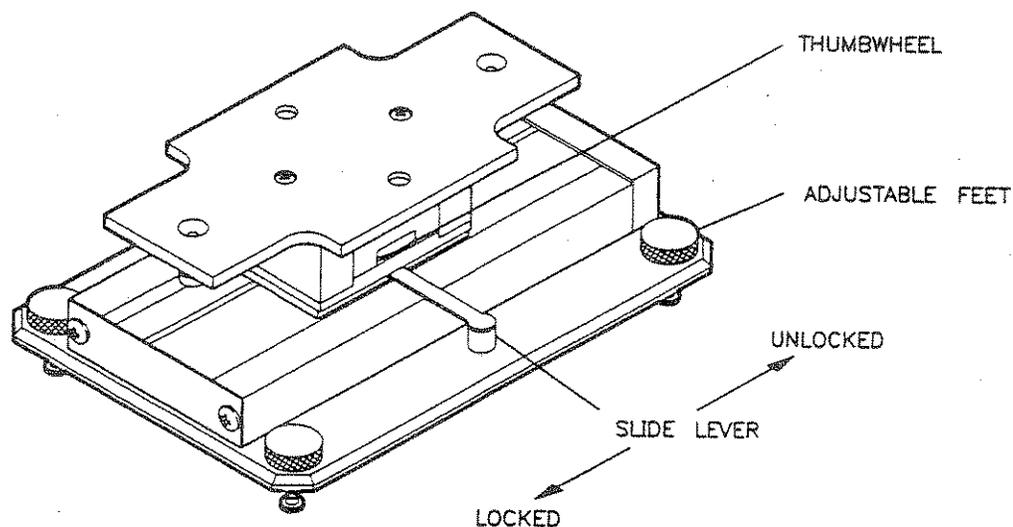

Figure 5-3. Test Set Module Stand
**Adjustment Feet.** The adjustment feet at each corner of the stand allow limited vertical adjustment of the test set module (Figure 5-3). The range of adjustment is approximately 13 mm (1/2 inch). Move port 1 and port 2 together just enough to judge their relative alignment. Adjust the feet on one of the modules until both modules are even and can be connected together. The waveguide parts must be coplanar.
**Thumbwheel.** The thumbwheel is on the elevator portion of the stand and allows for vertical adjustment of the module (Figure 5-3). The range of adjustment is approximately 31.75 mm (1.25 inch).
**Slide Lever.** The slide lever locks/unlocks the test set module's horizontal movement (Figure 5-3). The module is locked in place when the slide lever is toward the rear of the module, and unlocked when the slide lever is toward the front of the module. The range of horizontal adjustment is approximately 152 mm (6 inches). This adjustment is especially useful in a production environment in that it allows for quick setup and measurement of a number of devices while keeping the mm-wave modules stable and in place.